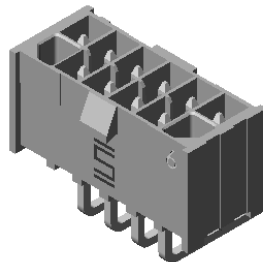

FIG 6 AB
-G: GUIDE POSTS (SEE FIG 6 & 7, SHEET 3) **AB**